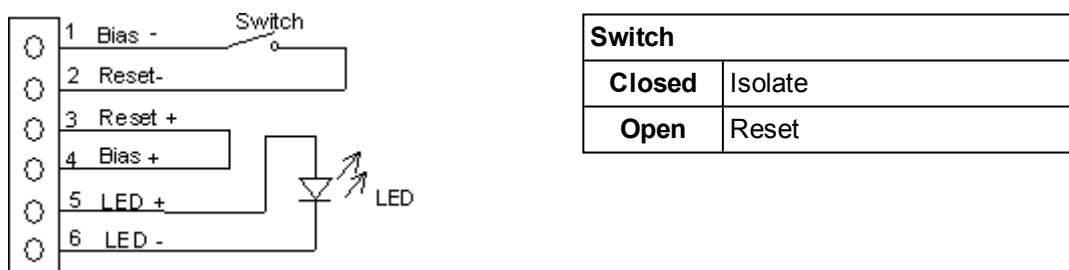

Figure 6-12: Wire Connection Details for Auxiliaries
Bias +/-	This output provides a 10V supply via a 1Kohm resistor to power the remote Reset/Isolate switch when connected as per Figure 6-12.
- Terminate the RESET, LED and Bias wires as per your site requirements or with reference to Figure 6-12